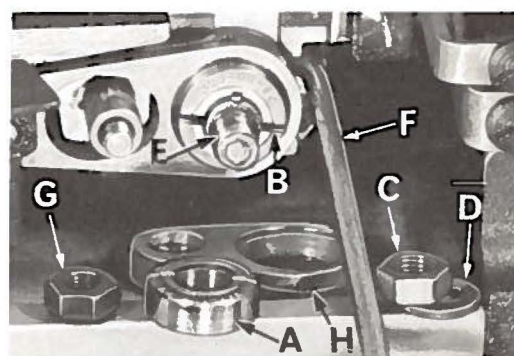

Fig. 14
If eccentrics are unusually tight fitting, in addition to removing nut (C, Fig. 14) and washer (D) from shaft (E), it may be helpful to remove nut (G) and feed driving connection (H). Then continue as originally suggested.